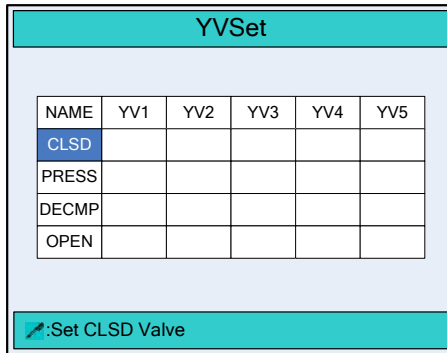

Figure 3-9 The **YVSet** page
On the **SYS PARA.** page, move the cursor to parameter **4.YV SETTING** (or press the number key 4), and press  to enter the **YV MONITOR** page, as shown in Figure 3-9.